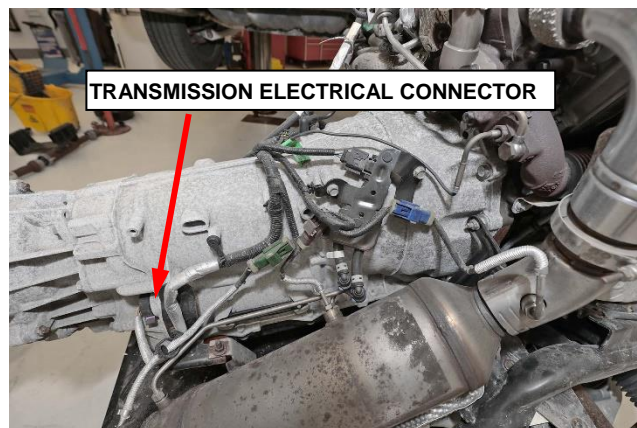

Figure 41 – Transmission Electrical Connector
- 87. Remove the transmission electrical connector and transmission harness retainers. Unclip all the remaining wiring harness from the transmission (Figure 41).
23. Connect the 13 pin plug connector and turn the connector clockwise to engage (Figure 41).